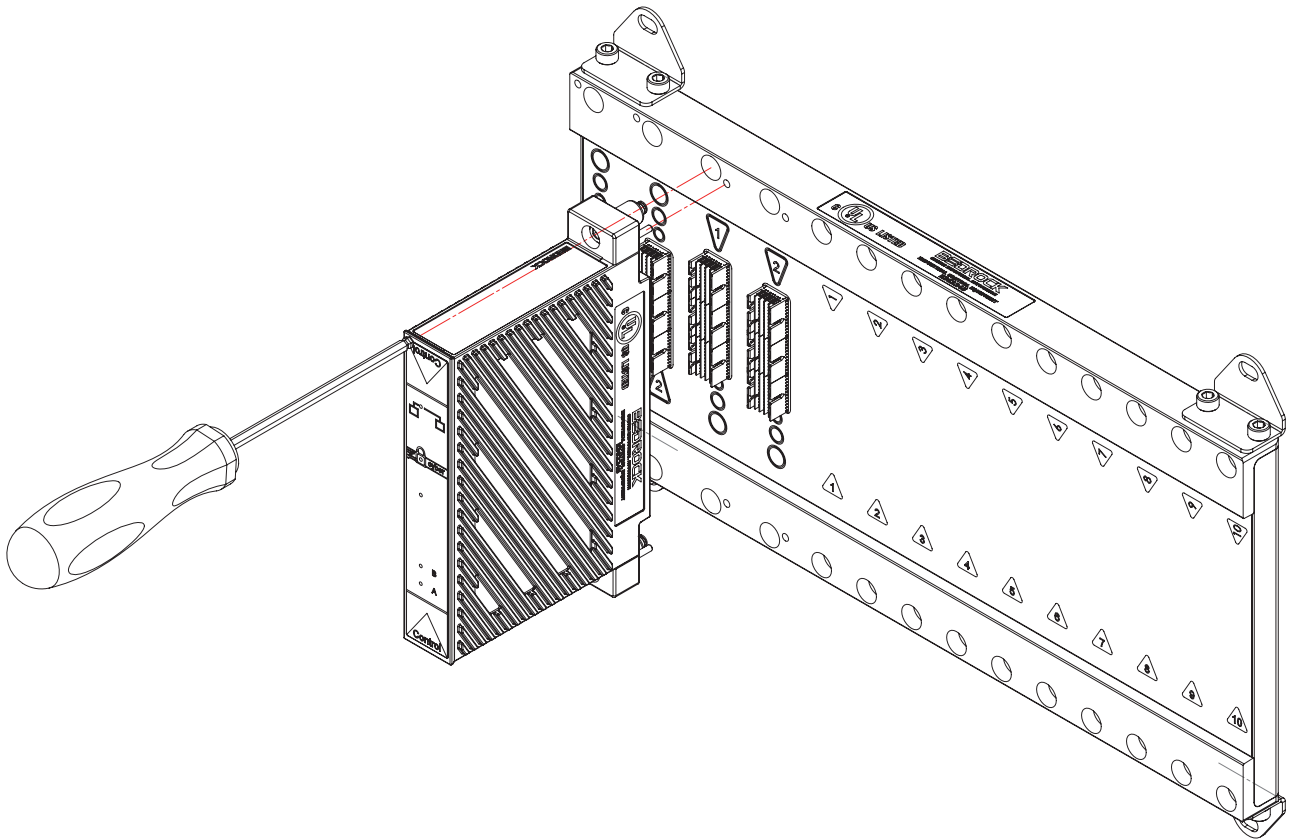

Figure 10-9 Single Controller Module
1. Install a Controller module into the first Controller slot as shown in Figure 10-9. The Controller will be flush against the BMI when seated properly.